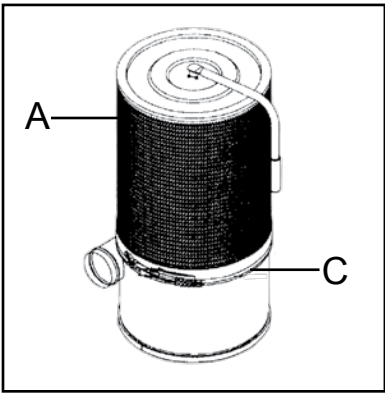

FIG. 4
Place the complete Canister Filter (A) on the top area of collector and use the belt clamp (C) to tighten. Please see figure 4.